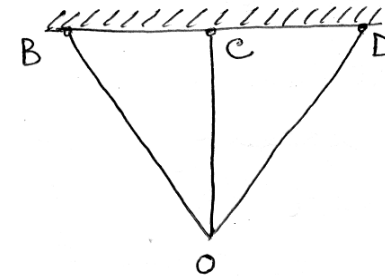

Fig. 3
- (c) What stresses will be produced in the bars of the system represented in Fig.3 if the temperature of all the bars be raised from "to" to "t" ? 12